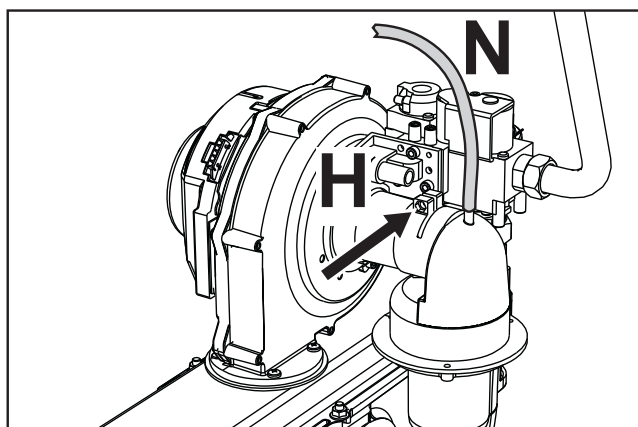

fig. 66
3. Remove the compensation tube "N" and loosen the screw "H" (see fig. 66).